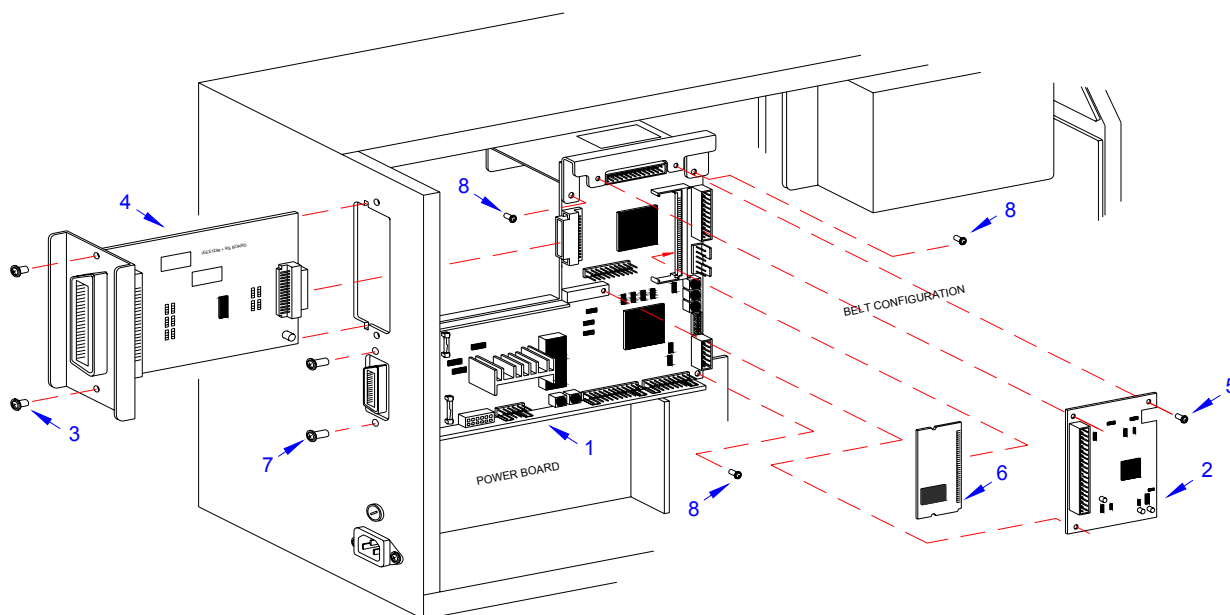

Figure 7-1, Circuit Board Replacement
- 3 Disconnect all wiring harnesses attached to main circuit board (1, Figure 7-1) or daughter board (2).